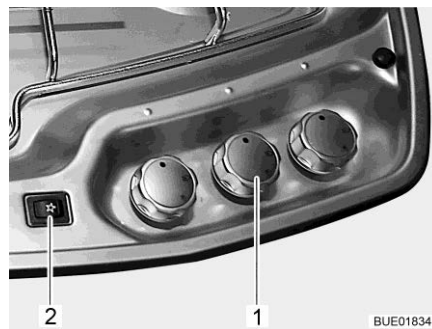

Fig. 175 Operating controls for gas cooker
- Turn the control knob (Fig. 175,1) on the burner you wish to use to the ignition position (large flame).
- Press lighting knob (Fig. 175,2). Ignition sparks are generated at the burner.